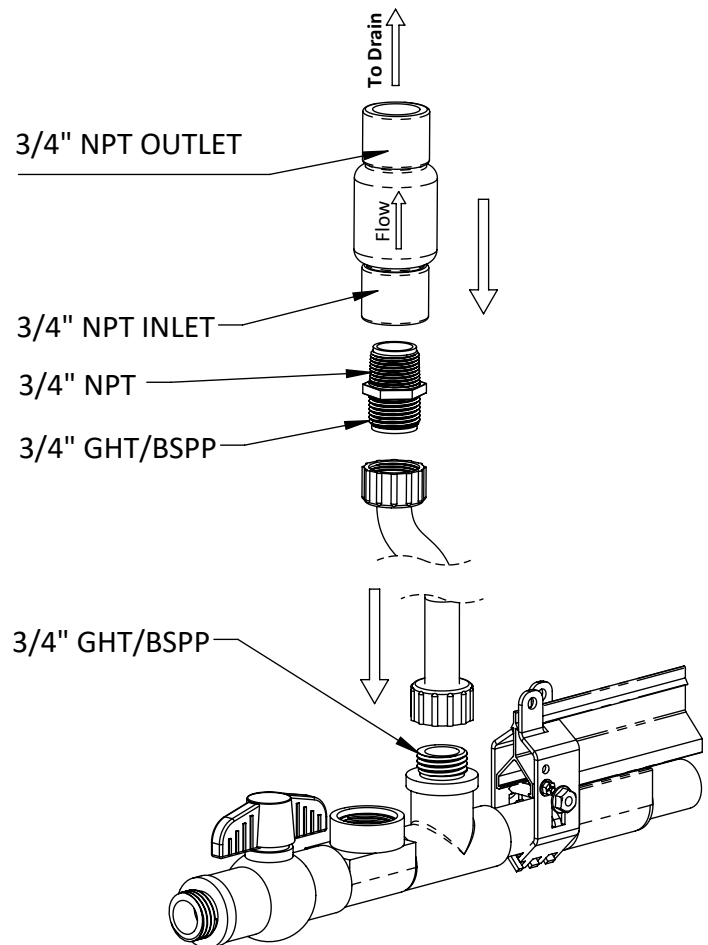

Figure 6: Exploded view of 820786/820787 before installed in ceiling mount configuration
1. Using PVC Cement, glue the Garden Hose Adapter (P/N:VE326 or VE326M; included with End Assembly) into the end assembly tee as shown in Figure 6.